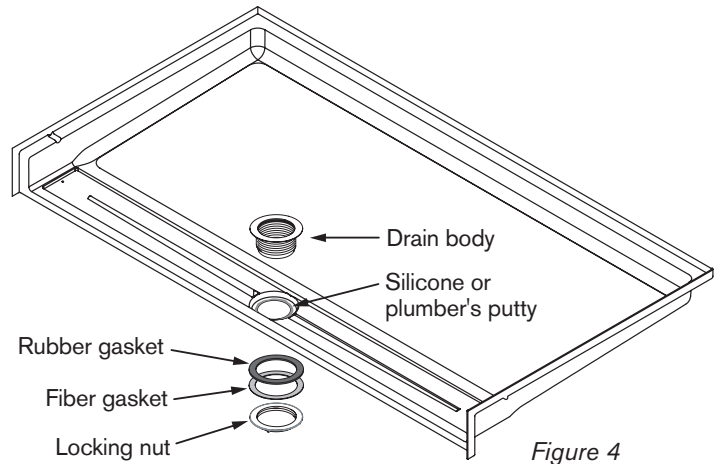

Figure 4
- 7** Apply silicone or plumber's putty around shower pan drain hole on the inside of shower only. (Figure 4)